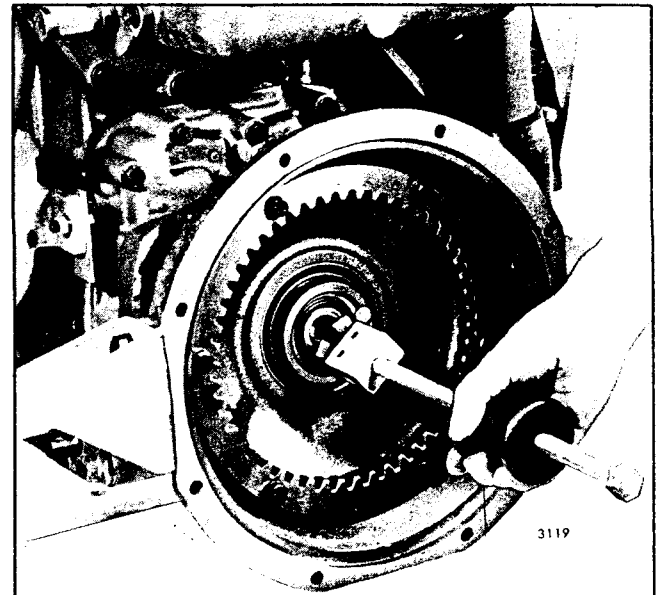

Fig. 2 - Removing Clutch Drive Shaft Pilot Bearing From Clutch Drive Adaptor
3. Remove the clutch drive shaft pilot bearing from the clutch drive adaptor with slide hammer J 5901-1 and remover adaptor J 5901-2 as shown in Fig. 2.